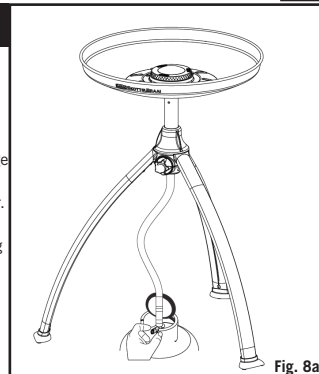

Fig. 8a
- The Control valve is closed by turning the control knob (K) clockwise to its "OFF" position and opened by pushing and turning anticlockwise.
- Adjust the flame intensity to the desired level by turning the Control knob (K) clockwise to decrease the flame and anti-clockwise to increase it (See Fig.8a & b).
- After use, first close the valve on the gas container (where applicable). When the flame has extinguished, close the valve on the appliance by turning the control knob (K) fully clockwise.
Lighting up using a match or BBQ lighter (See Fig. 8a and 8b)